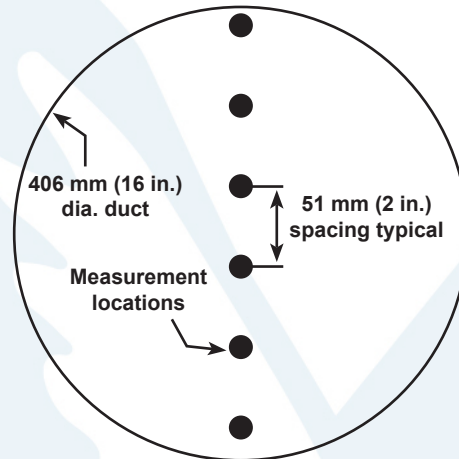

Figure 11 Locations to Take Air Velocity Readings Vertically Across a Duct
- b. Take air velocity readings vertically across the duct direction using the spacing shown in Figure 11 and record each reading.